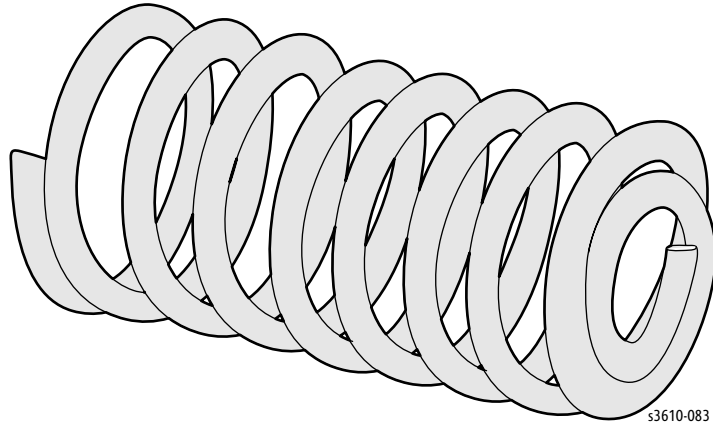

Figure 2
1. Install the plastic registration roller tension springs with the extra coil facing the shaft. (Figure 2)